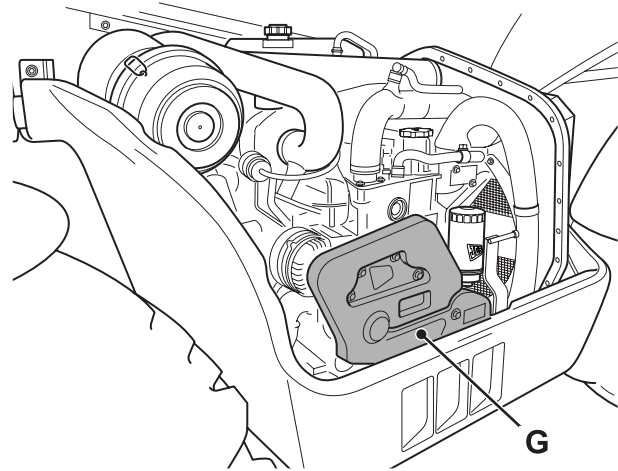

Fig 35.
- 3 Remove the drive belt guard **G**. ⇒ Fig 35. \(□ 3-72\).
- 9 Refit the drive belt guard **G**. ⇒ Fig 35. \(□ 3-72\)